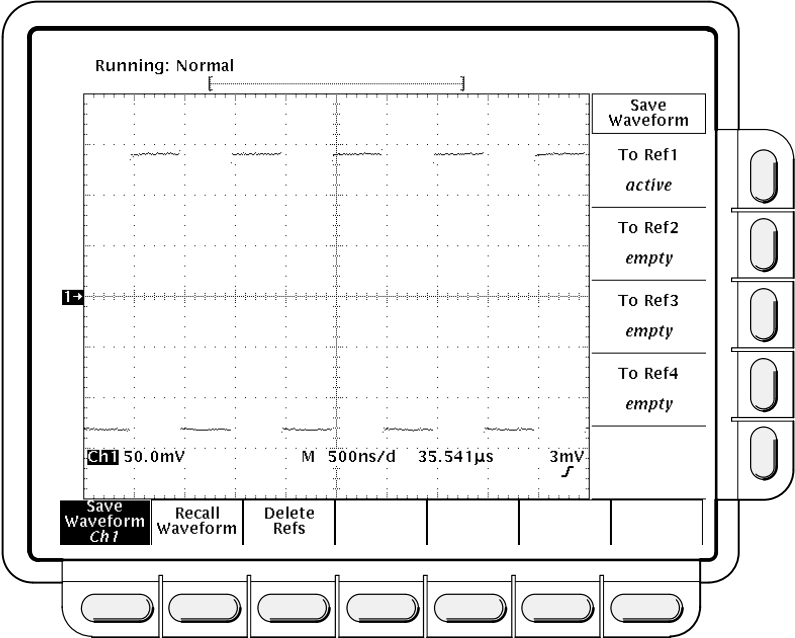

Figure 3-52: Save Waveform Menu
Before doing step 2 that follows, note that if you choose a reference memory location labeled **active** (see Figure 3-52), you will overwrite the waveform previously stored there. You can store waveforms in reference locations labeled **empty** without disturbing previously stored waveforms.
2. Press save/recall **WAVEFORM** → **Save Waveform** (main) → **Ref1**, **Ref2**, **Ref3**, or **Ref4** (side) (Figure 3-52).